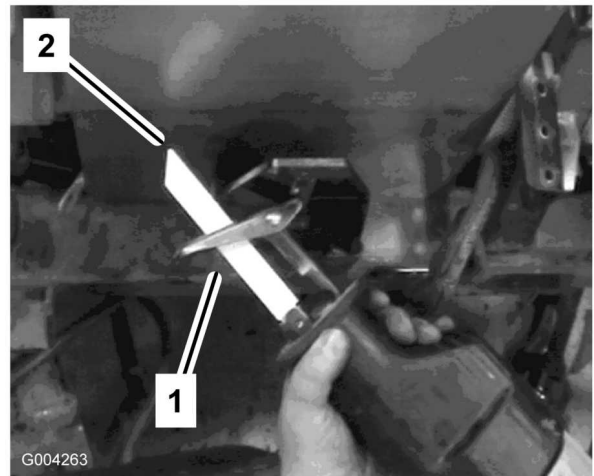

Figure 9
4. Use reciprocating saw with a new, fine tooth (18T) saw blade to cut the bracket at the line. Extend the saw guide to the outer most position. Hold the saw at an angle to minimize the saws plunge depth and to avoid making contact with the sheet metal guard (Figure 9). Grip the saw firmly and hold it steady to cut straight.